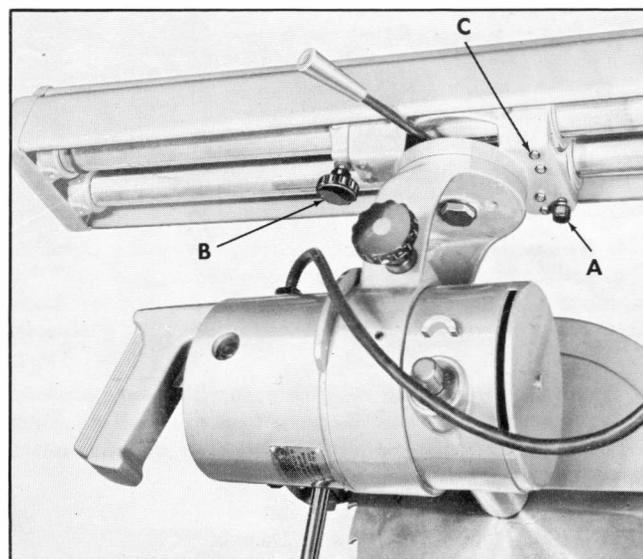

Fig. 5
1. Remove carriage tension knob A, fig. 5, and carriage lock knob B, fig. 5.
2. Loosen the six lock nuts, C, fig. 5. — Note the slotted head set screws.